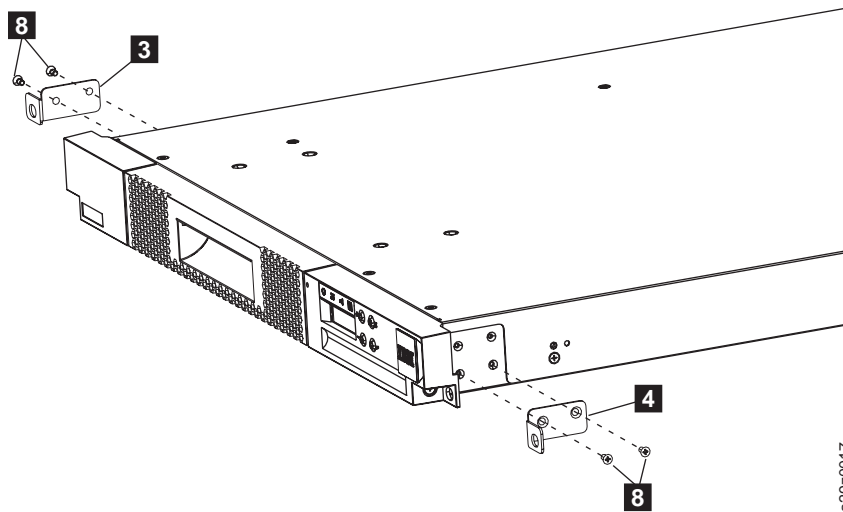

Figure 145. Attaching the front brackets to the library chassis
2. Attach the left **3** and right **4** front brackets to the front of the library chassis with 2 flat-head screws **8** on each side (Figure 145 on page 150). Use the bottom two screw holes on each side.